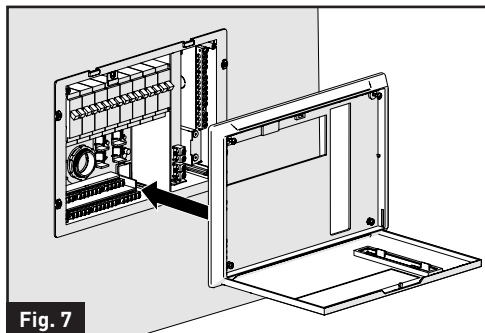
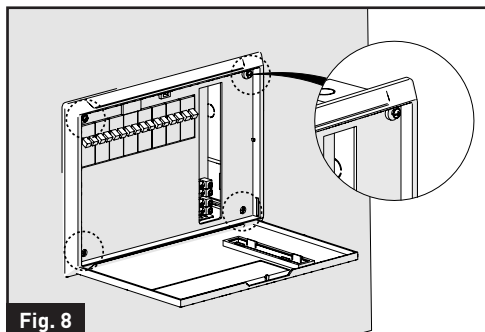

Fig. 7
Fig. 8
8. Replace the housing to the distribution panel and tighten the screws at the four corners. (Fig. 7 and Fig. 8)